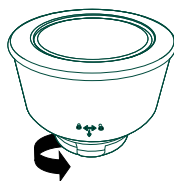

Figure 1
2. Remove the bean hopper by rotating counterclockwise to unlock from the machine (figure 1).
7. Place grind setting to the “**Fine**” (0) and then Turn the machine ON by pressing the **Power** button.